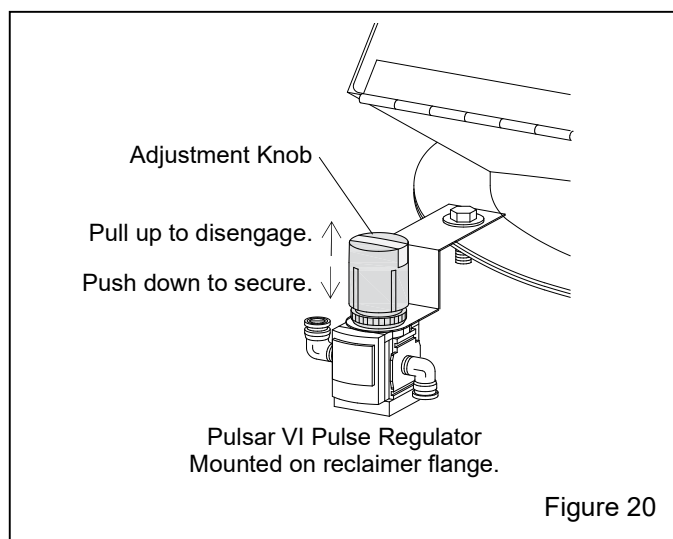

Figure 20
5.7 Dust-Collector Pulse Pressure – Figure 20
5.7.1 The pulse-pressure regulator is located on the reclaim flange, as shown in Figure 20.
5.7.2 Begin pulsing at 60 psi. To adjust pressure, pull up on the knob; a short snap as the knob is pulled up disengages it, as shown in Figure 20. Turn the knob clockwise to increase pressure or counterclockwise to decrease pressure. Once operating pressure is set, push down on the knob to secure it, and maintain the setting.